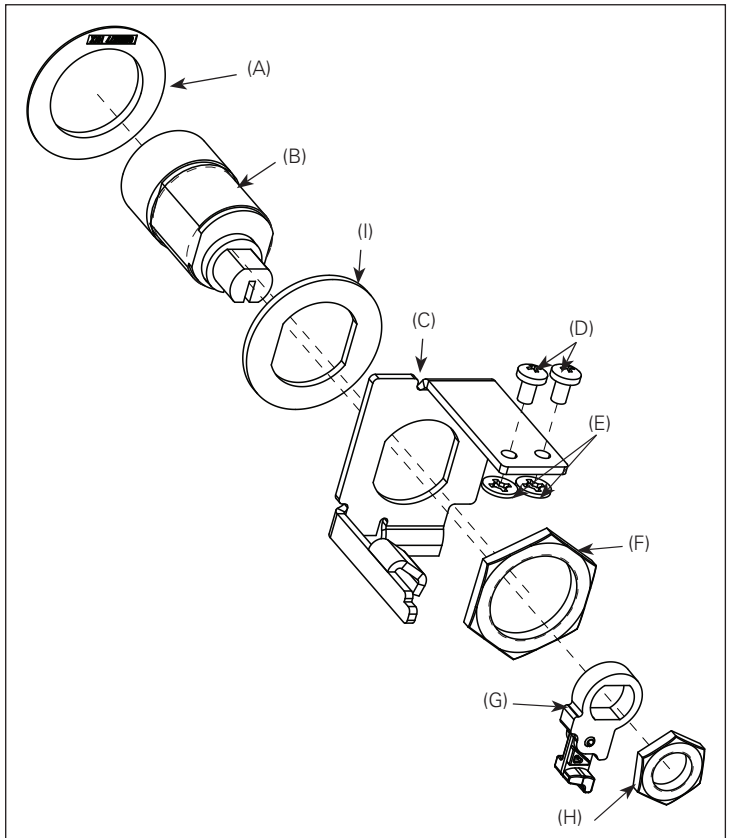

Figure 1. Contents of kit.
Refer to (Figure 1) for visual identification of the parts listed below.
Step 4.1: (NF frame only) Refer to (Figure 1) for assembly orientation. Mount the lock (B) to the mounting bracket (C). Secure it in place with the large locking nut (F). Ensure that the large locking nut is firmly tightened.
Step 4.2: (RF frame only) Refer to (Figure 1) for assembly orientation. Install the spacer (I) onto the back of the lock (B) and then mount the mounting bracket (C). Be sure the spacer is trapped between the lock and the mounting bracket. Secure it in place with the large locking nut (F). Ensure that the large locking nut is firmly tightened.